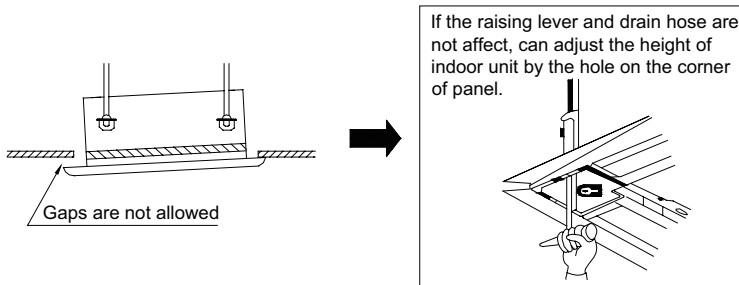

Fig. 15
- ① . If gap still exist between ceiling and decoration panel after tightening the screws, readjust the height of the indoor unit. (As shown in Fig. 15)